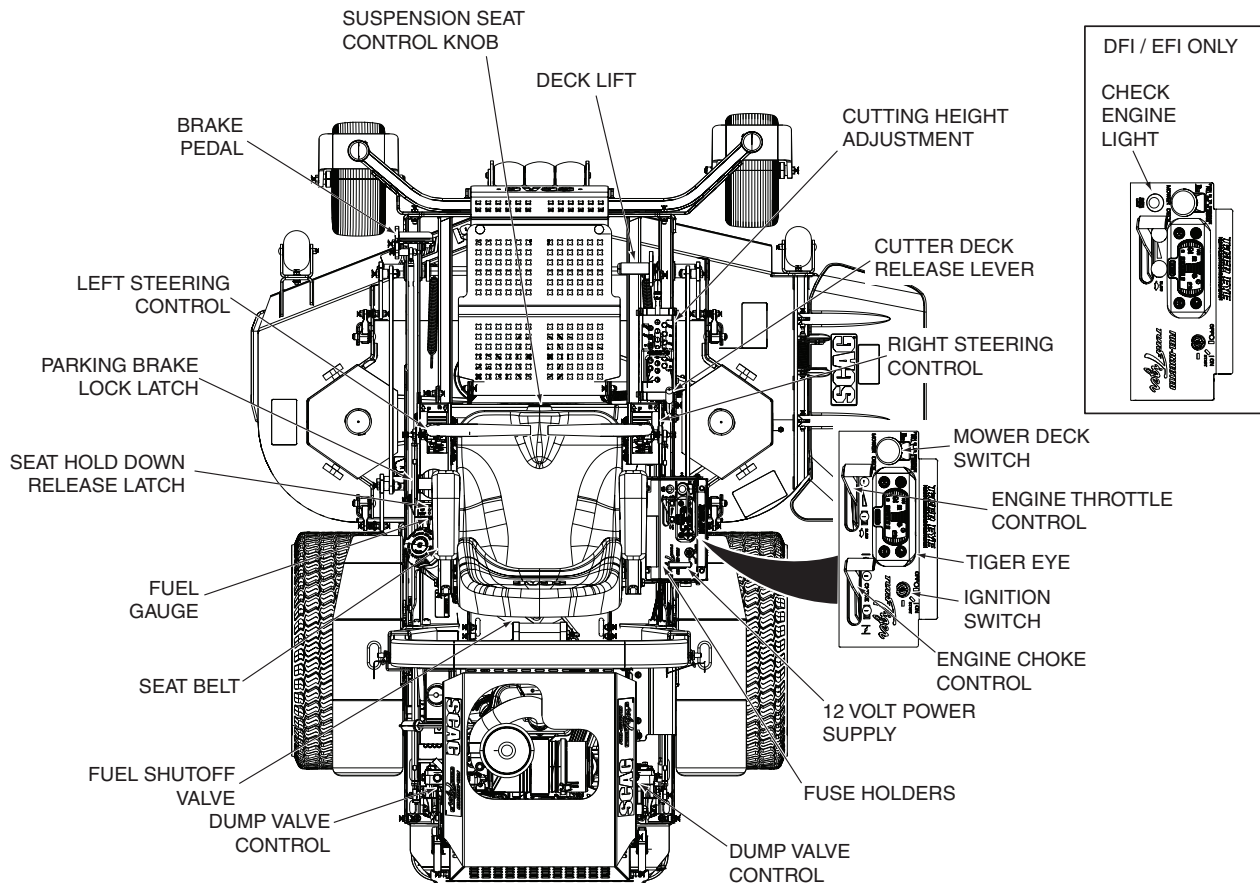
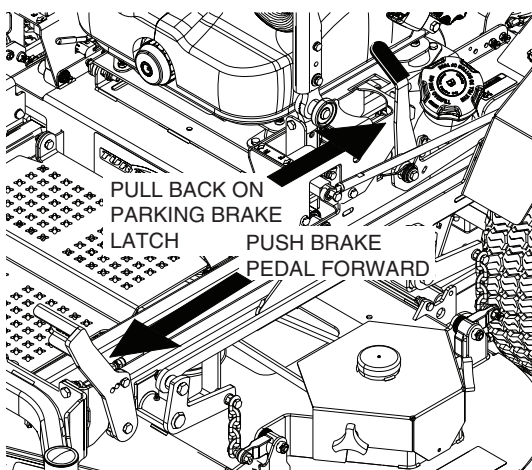
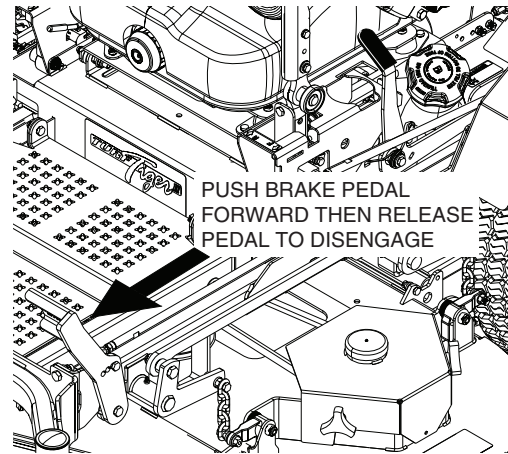
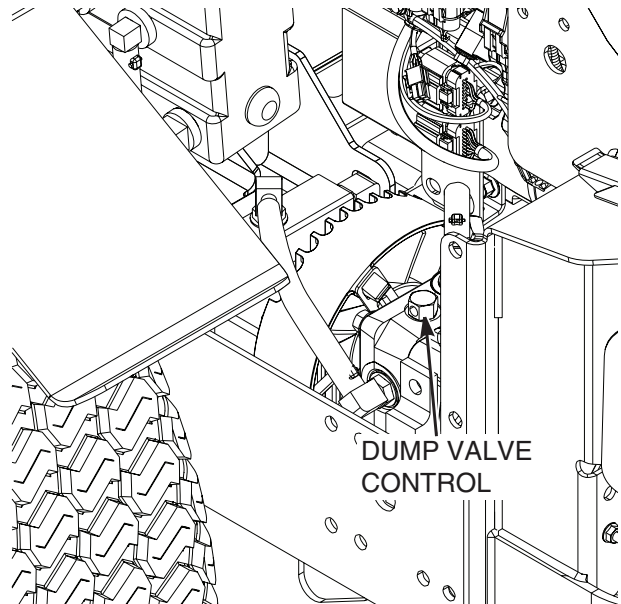

Figure 4-2. Controls and Instruments
Figure 4-3. Engaging Parking Brake
Figure 4-4. Releasing the Parking Brake
Figure 4-5. Dump Valve Control
12. **Fuse Holders (Figure 4-2).** Two 20-amp fuses and one 5-amp fuse protect the mower's electrical system. To replace fuses, pull fuse out of the socket and install a new fuse.
1. **Ignition Switch (Figure 4-2).** The ignition switch is used to start the engine and has three positions; OFF, ON, and START.
2. **Mower Deck Switch (Figure 4-2).** Used to engage and disengage the mower drive system. Pulling up on the switch will engage the deck drive. Pushing down on the switch will disengage the deck drive.
3. **Engine Choke Control, Carbured Engine Only (Figure 4-2).** Used to start a cold engine.
4. **Engine Throttle Control (Figure 4-2).** Used to control the engine speed. Pushing the lever forward increases engine speed. Pulling the lever back decreases engine speed. Full back position is the IDLE position. Full forward is the cutting position.
5. **Left Steering Control (Figure 4-2).** Used to control the mower's left wheel when traveling forward or reverse.
6. **Right Steering Control (Figure 4-2).** Used to control the mower's right wheel when traveling forward or reverse.
7. **Brake Pedal (Figure 4-2).** Depressing the brake pedal applies the brake.
8. **Parking Brake Lock Latch (Figure 4-2).** Used to lock the parking brake in the engaged position. Fully depress the brake pedal and pull the parking brake lock latch back to lock the parking brake in the engaged position. See Figure 4-3. Fully depress the brake pedal forward to disengage the parking brake lock latch, then release the brake pedal to disengage the brake. See Figure 4-4.
9. **Fuel Tank Gauge, Gasoline & Diesel Models Only (Figure 4-2).** Indicates the amount of fuel in the fuel tank.
10. **Dump Valve Control Levers (Figure 4-2).** Located on the left and right side of the machine, used to “free-wheel” the mower. Move the levers forward until they stop allows the unit to move under hydraulic power. Move the levers back and towards the engine allows the mower to be moved by hand (free-wheeling). See Figure 4-5.
11. **Deck Lift Foot Lever (Figure 4-2).** Used to raise and lower the cutter deck. Push full forward to lock in the transport position.
12. **Cutting Height Adjustment (Figure 4-2).** Used to set the cutter deck at the desired cutting height.
13. **Deck Release Lever (Figure 4-2).** Used to lock the cutter deck in the transport position. Push the foot pedal forward and pull back on the release lever to release the cutter deck for normal mowing.
14. **Seat Suspension Control Knob (Figure 4-2).** Used to select the optimum suspension rate based on the operator.
15. **Seat Belt (Figure 4-2).** Used to secure the operator. Seat belt must be worn at all times when the ROPS is in the upright and locked position.
16. **Seat Hold Down Release Latch (Figure 4-2).** Located behind the seat. Used to secure the seat in the operator's position. Release the latch to gain access under the seat.
17. **Fuel Shutoff Valve Gasoline & Diesel Models (Figure 4-2).** Located under the seat on top of the fuel tank. Used to shut off fuel supply to the engine. Rotate the valve counter clockwise to supply fuel from the tank to the engine. Rotate the valve clockwise to shut off the fuel supply to the engine. **LP Models,** Valve is located on the LP tank.
18. **12 Volt Power Supply (Figure 4-2).** Located on the side of the control panel. Fused 12 volt DC power supply used to power accessories rated at 5 amps or less.